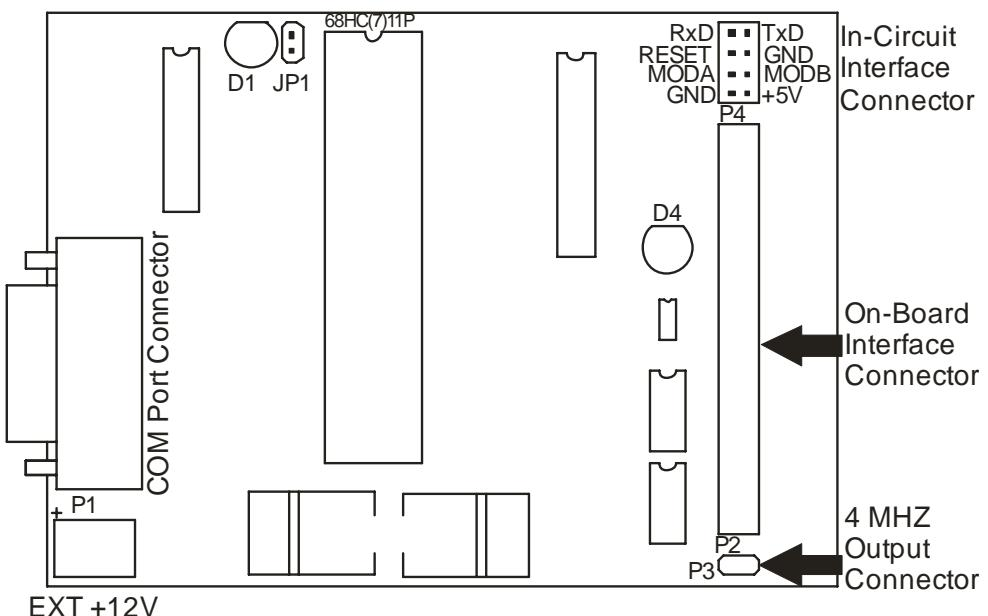

Figure 1. The HC11-Programmer board layout
The HC11-Programmer includes two LED's and mode jumper (Figure 1).
- Insert jumper JP1 (see Figure 1).
- Remove JP1 (see Figure 1).
**Note:** When using In-Circuit programming interface remove adaptor from On-Board interface connector. (see Figure 1).
**Note:** When On-board programming interface used, remove cable from ICP connector (see Figure 1).
- Remove cable from On-Board connector (see Figure 1).
- Attach adaptor to OBP connector with help of cable in according to 1 pin-key (see Figure 1).
- Remove cable from ICP connector (see Figure 1).
- Remove cable from BDM ICP connector (see Figure 1).